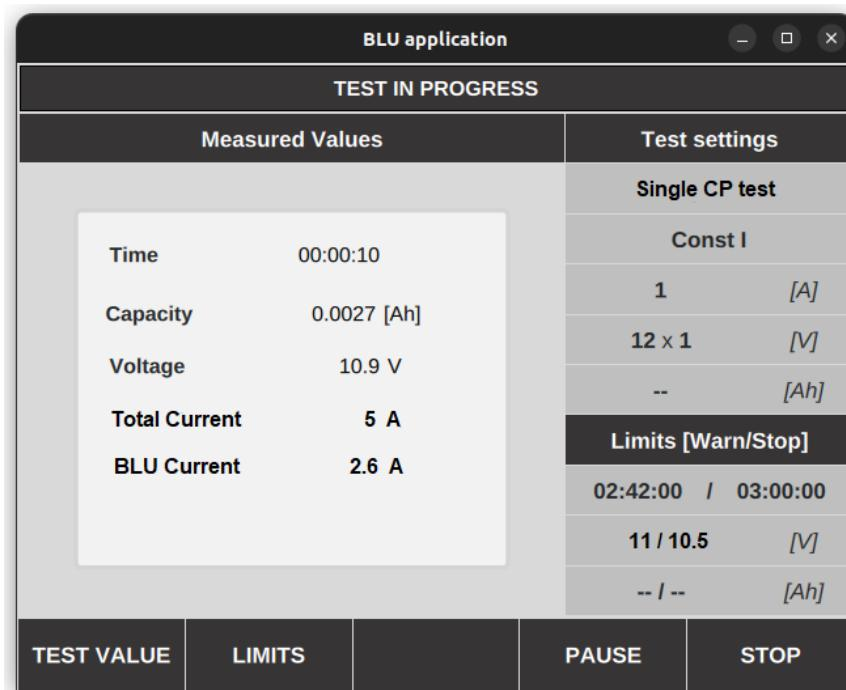

Figure 4-8: Test screen – CP Battery Current
1. Numerical parameters (visible on Figure 4-8)
- Total Current (5 [A] on the Figure 4-8) – selected discharge current